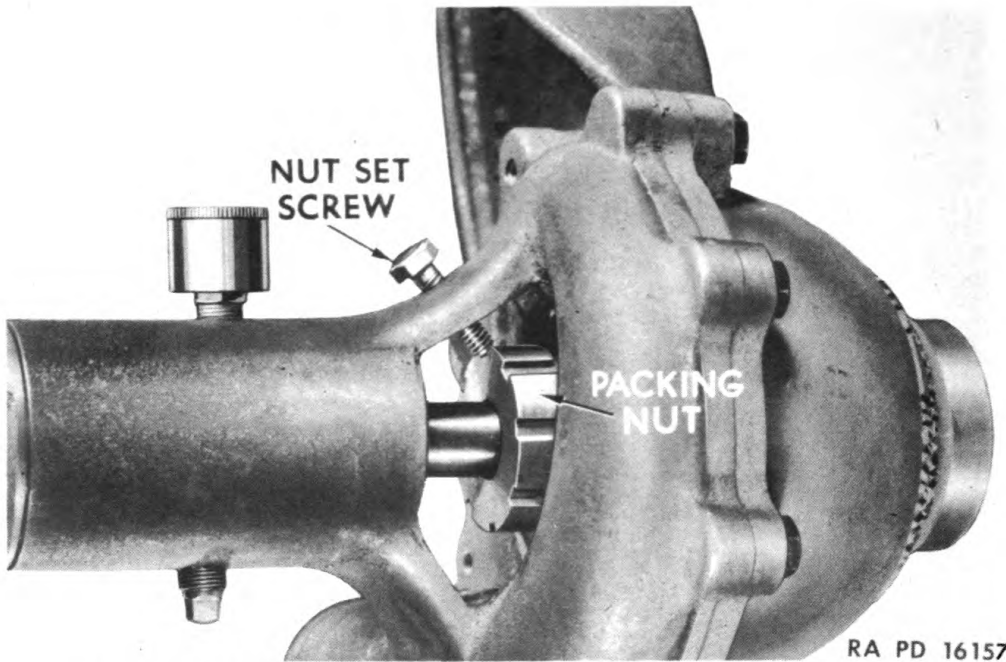

Figure 153—Centrifugal Bilge Pump Packing Adjustments
b. **Centrifugal Bilge Pump Drive Shaft Packing.** Packing around pump shaft in pump housing is provided to prevent leakage at this point. Packing should be tightened whenever an excessive amount of leakage occurs around shaft. Refer to Fig. 153.
(1) Remove front center section of cargo compartment floor board. Lift by hand holes provided in floor board.
(2) Loosen lock screw shown in Fig. 153 sufficiently to permit tightening of packing nut. Tighten packing nut with wrench KM-J-2341 until leakage is reduced but not entirely stopped. Tighten lock screw so that it engages notch in packing nut.
(3) Install front center section of cargo compartment floor board.